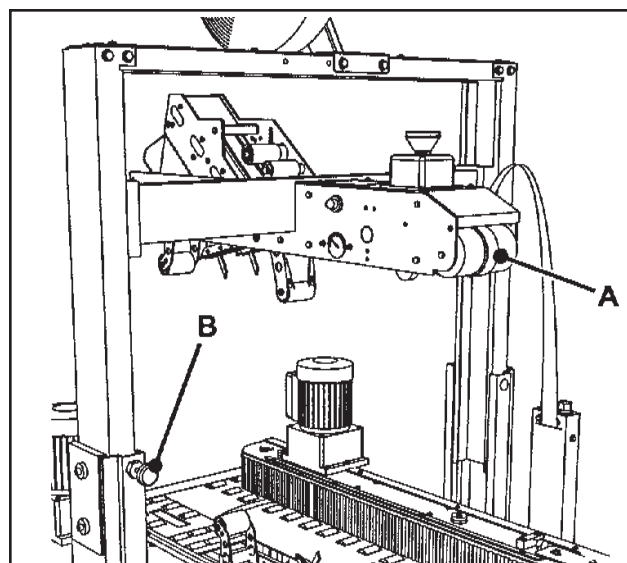

Figure 3-6 – Latching Knob, Upper Taping Head Frame
- 11 **Latching Knob, Upper Taping Head Frame –Figure 3-6**